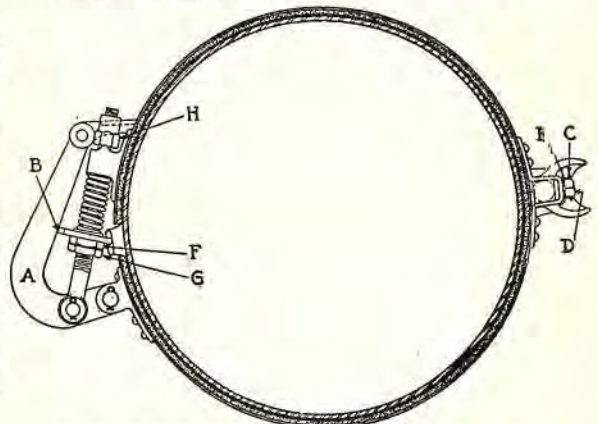

Fig. 17. External brake as used on the Columbia rear axle.
First, remove the rear wheels; then adjust the pull rods until the brake-shaft lever on the axle to which these rods connect is set back at same angle as external brake-tube levers when contracting lever (A) is back against stop (B) (see Fig. 17 and instructions for external brake adjustment above).